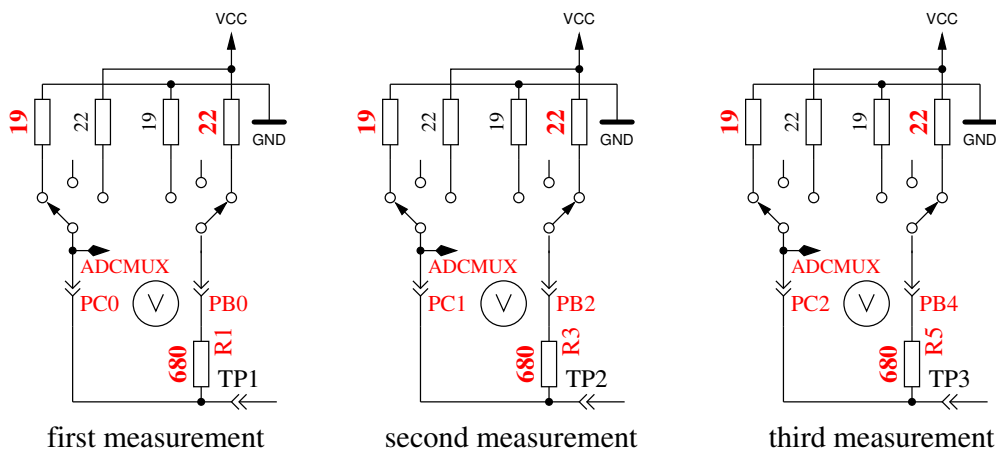

Figure 4.27: Measurement of internal resistance of Port C switched to GND
5. **This step tests the capability of GND (-) connected 470kΩ resistors (H) to pull the test pins to GND.** Row 1 shows the text “RH-”. Row 2 should display zero for all three pins.
6. **This step tests the capability of VCC (+) connected 470kΩ resistors (H) to pull the test pins to VCC (+).** Row 1 shows the text “RH+”. The best value for this three measurements is 5001. Great differences from the best value for test 5 and 6 are errors such as isolation problem, flux material or damaged port.
7. **Measuring of internal resistance of pin output switched to the GND signal.** The text in the 1st LCD row is “Ri.Lo = (mV)”. In the second row of the LCD three voltages were displayed. The internal resistance of the port C outputs switched to GND (-) are measured with the current of to VCC (+) switched 680Ω resistors, see Figure 4.27. Only the three pins of the ADC port are measured, the resistor port B (PB0, PB2 and PB4) can not be measured without hardware modification. It is assumed that the port resistance of the different ports are nearly identical. To get the resistor values, you must divide the displayed mV values by about 7 (see test 8).